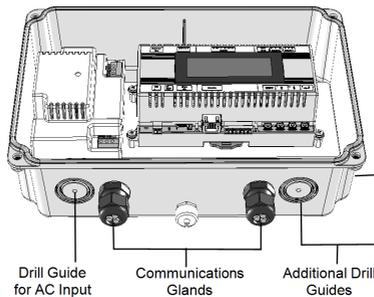

Figure 3: Data Logger external interfaces
- **Drill guide for AC:** used to feed the Data Logger power supply as described in *Connecting the SolarEdge Data Logger to AC* on page 16. The AC power cable is threaded through the designated drill guide, as shown in *Figure 3*.